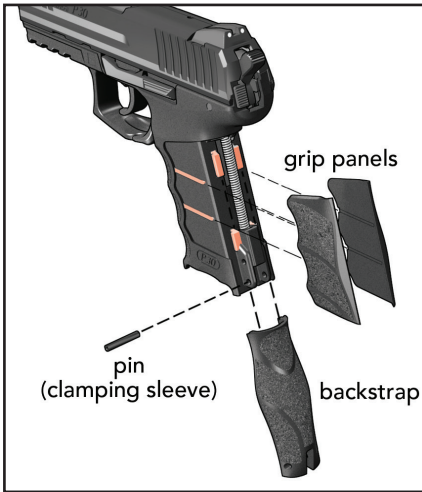
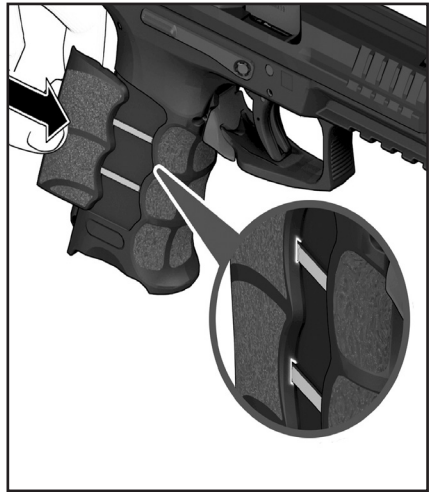

Figure 12
Figure 13
1. Using a 2.8 mm pin punch, remove the pin (clamping sleeve) holding the backstrap in position. Choose the combination of backstrap and grip panels that provide the most comfortable fit for the operator (See Figure 12).
2. Install the two grooves on the inside of each grip panel onto the corresponding tongues located on the outside of the frame (Figure 12 and Figure 13) and push the panels forward until they seat flush into the frame.